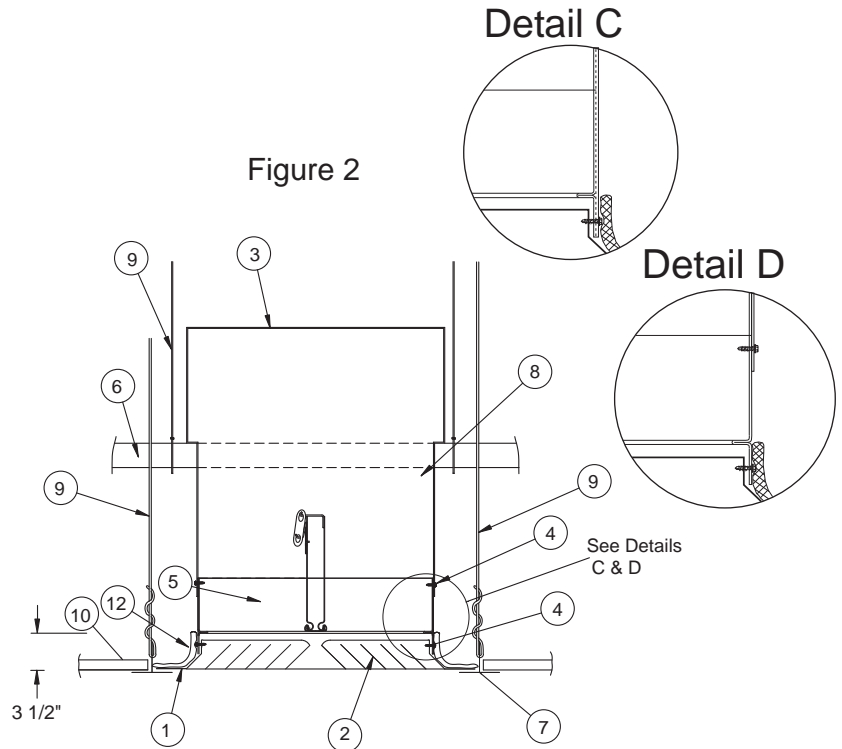

Figure 3
**Fusible Link:** All CD models (Butterfly Type) are shipped from the factory with the blades closed. The fusible link must be installed at time of installation such that the blades are held open as shown at the right, Detail B. Model CD-P must have link installed after installation to duct or structural member above, (See Figure 3)
*Hinge Door Applications (Figure 3)*